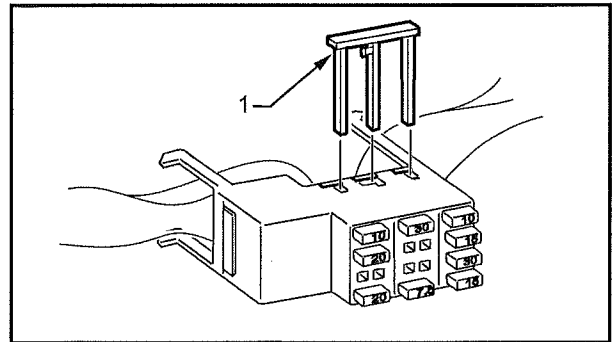

FIGURE 6
- 8. Push the screwdriver in behind the back-out safety lock (1) and remove the back-out safety lock. Refer to Figure 6.